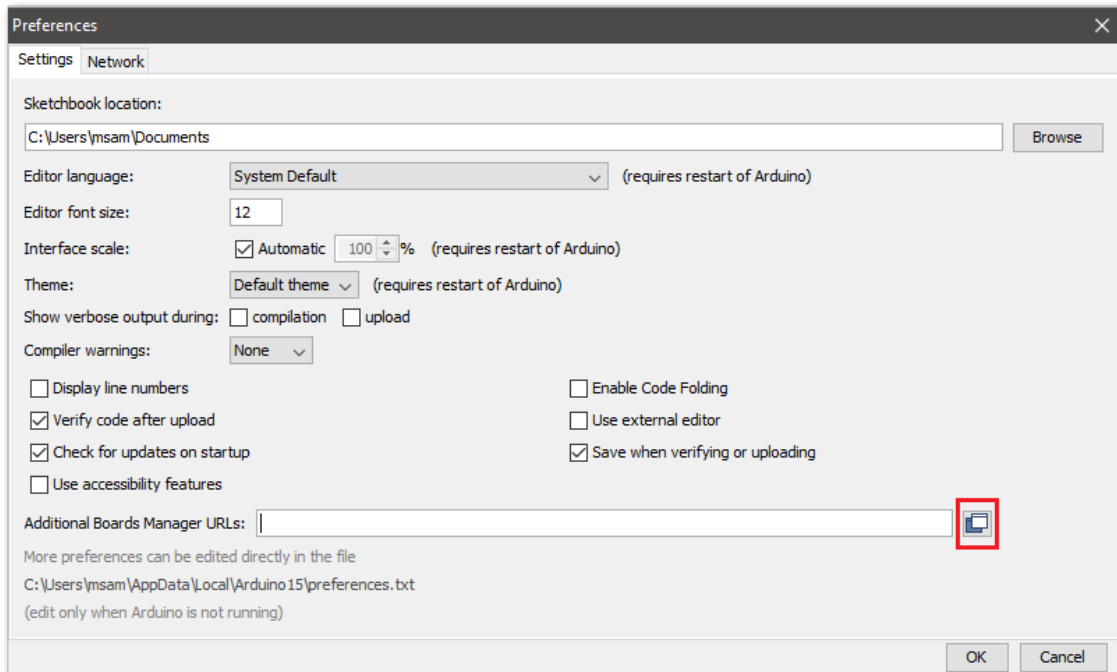

Figure 5: Modifying Additional Board Manager URLs
2. To add the RAK3172 to your Arduino Boards list, edit the **Additional Board Manager URLs**. Click the icon, as shown in **Figure 5**.